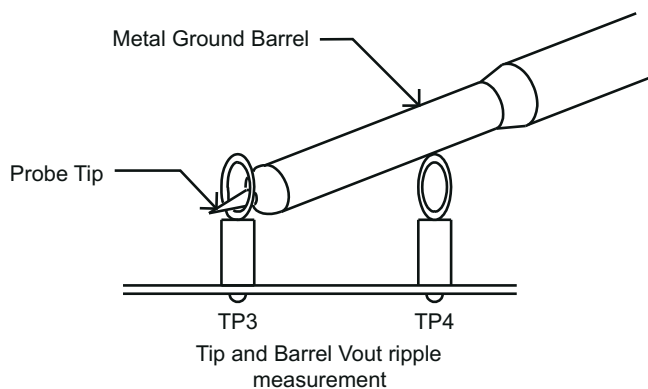

Figure 5-2. Output Ripple Measurement – Tip and Barrel using TP3 and TP4
2. Connect an oscilloscope probe with exposed metal barrel to TP3 and TP4 per Figure 5-2.